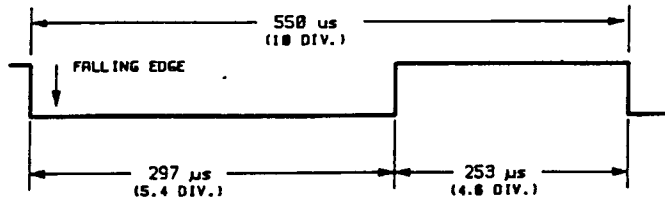

Figure 6-35. EXT RX CLK and PB RX CLK Waveform
- STEP 7** Ensure that the waveform that is present at this test point is equivalent to the waveform shown in Figure 6-35 (54% Duty Cycle). If the waveform is not equivalent, adjust RV1 on the CPU board to attain this reading on the oscilloscope.
STEP 12 Ensure that the waveform at TP10 is equivalent to the waveform shown in Figure 6-35. If the waveform is not equivalent, adjust RV2 on the CPU board to obtain this reading on the oscilloscope.
STEP 14 Ensure that the waveform at TP7 (EXT TX CLK) is equivalent to the waveform shown in Figure 6-35. If the waveform is not equivalent, adjust RV4 on the CPU board to obtain this reading on the oscilloscope.